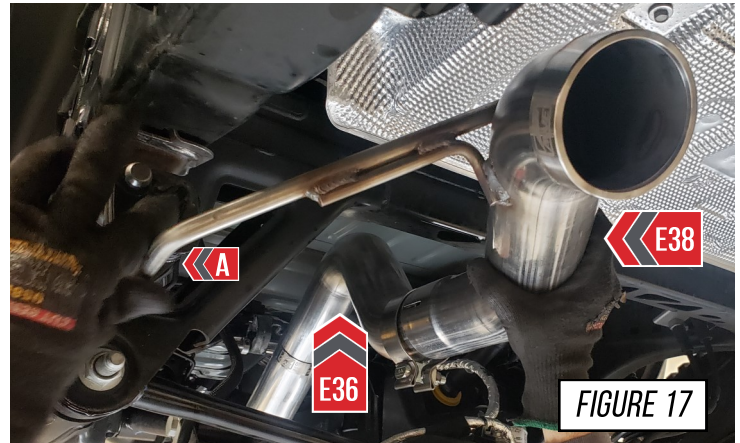

FIGURE 17
Next insert the hanger bar into the OE hanger as shown at (B) in **Figure 17**.
Then, align the slip joint on the AWE BashGuard (E38) and bottom out the slip joint on the AWE overaxle tube (E36), as shown in **Figure 17**.